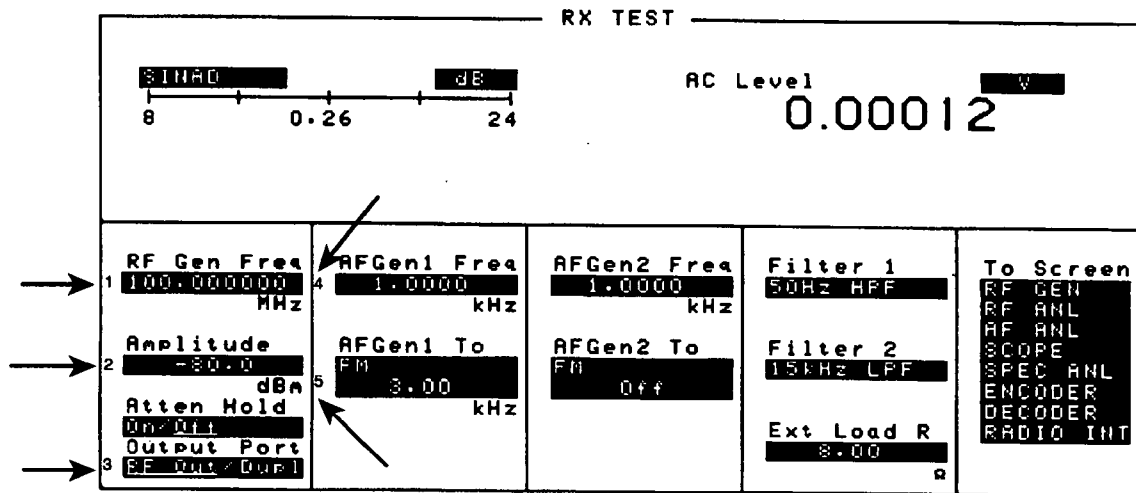

Figure 3-4. An Example of Pre-Assigned Local User Keys
1. Press **SHIFT**, **ASSIGN**, **ENTER**. The numbers 1 through 5 appear in front of various fields. (See Figure 3-4.)